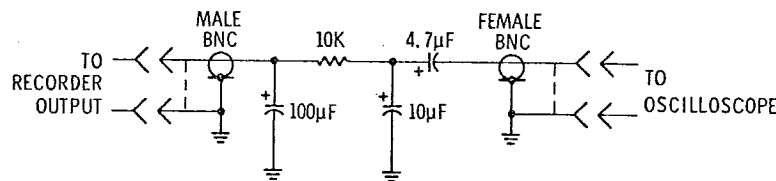

Figure 4. Noise Test Filter Schematic Diagram
Filter	(See Figure 4)
2. Assemble the parts as shown in Figure 4.